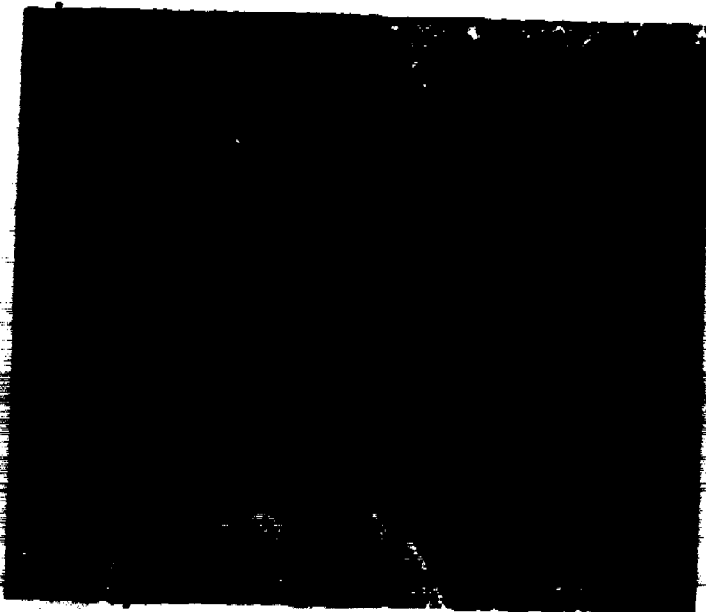

Fig. 101 - Checking Crankshaft End Play
14. Check crankshaft end play with a dial indicator, as shown in Fig. 101. End play should be within limits listed in "Specifications".